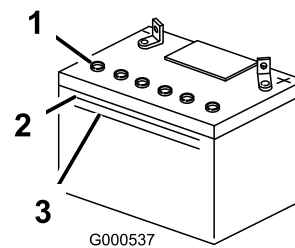

Figure 39
1. Look at the side of the battery. The electrolyte must be up to the **upper** line (Figure 39). Do not allow the electrolyte to fall below the Lower line (Figure 39).
3. Remove the vent caps from the battery (Figure 39).
4. Slowly pour distilled water into each battery cell until the electrolyte level is up to the Upper line (Figure 39) on the battery case.
6. Add distilled water, if necessary, until the electrolyte level is up to the Upper line (Figure 39) on the battery case.